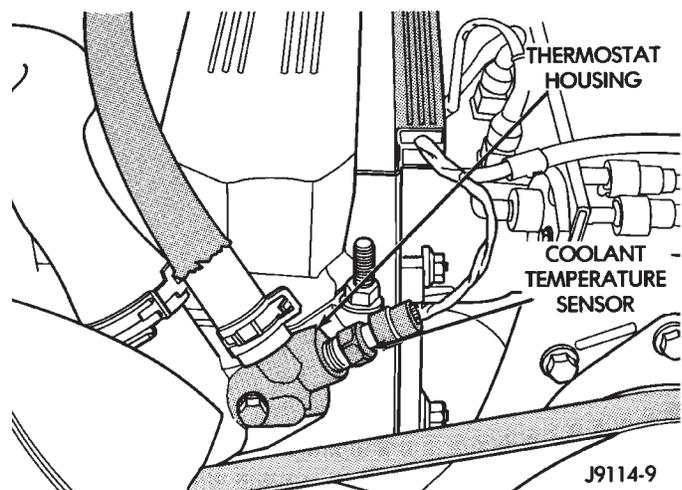

Fig. 8 Coolant Temperature Sensor—Typical
The sensor is installed in the thermostat housing (Fig. 8).
- (1) Drain cooling system until the coolant level is below the cylinder head. For cooling system draining, refer to Group 7, Cooling.
- (2) Disconnect the coolant temperature sensor wire connector.
- (3) Remove the sensor from the thermostat housing (Fig. 8).